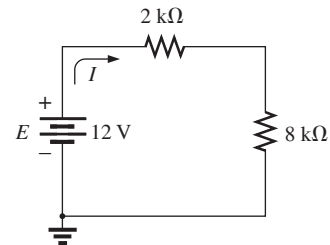

FIG. 5.128
46. a. Determine the current through the circuit in Fig. 5.128.
b. If an ammeter with an internal resistance of 250 Ω is inserted into the circuit in Fig. 5.128, what effect will it have on the current level?